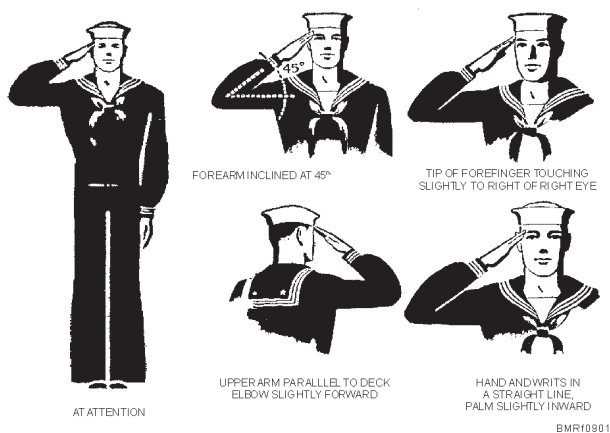

Figure 9-1.—Hand salute.
- Raise the right hand smartly until the tip of the forefingers touches the lower part of the headgear or forehead above and slightly to the right of the eye (fig. 9-1).